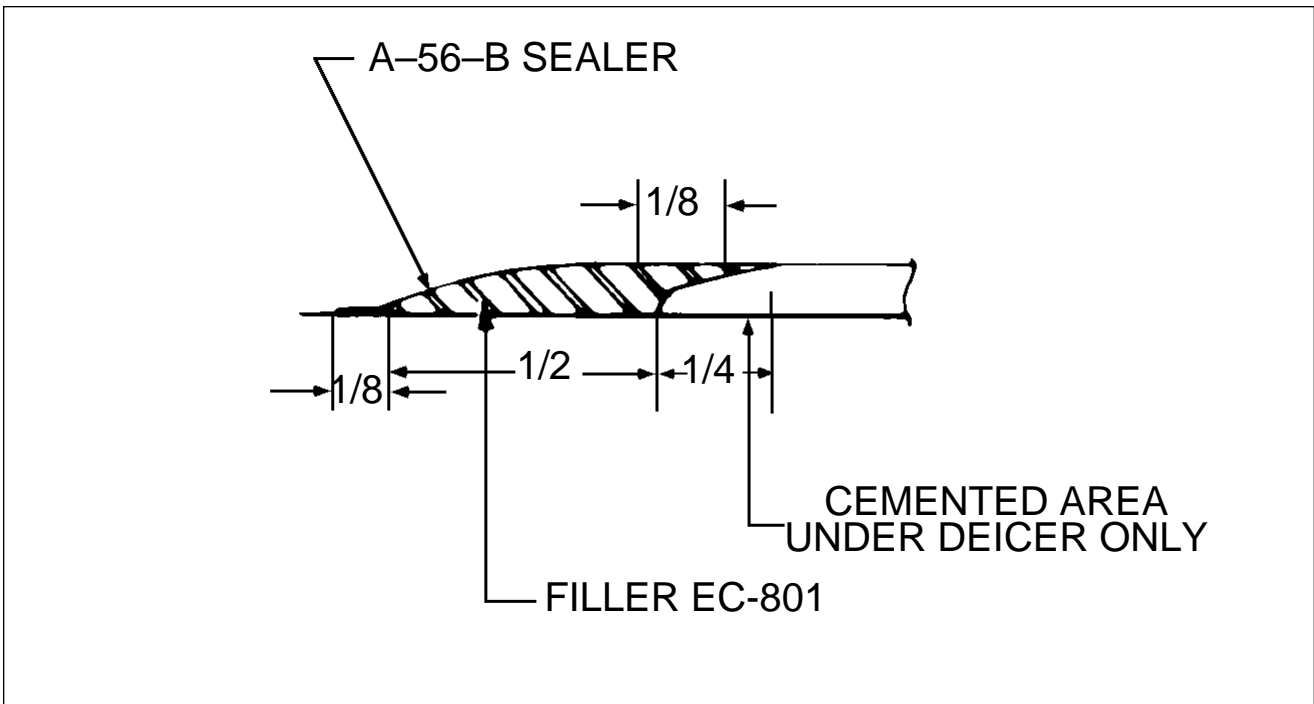

Figure 30-22. Sealer Application (Boot)
6. Apply one even coat of filler to area around the inboard end and sides of the deicer. (Refer to Figure 30-22.) Immediately remove the masking tape and allow the filler to dry for six hours.